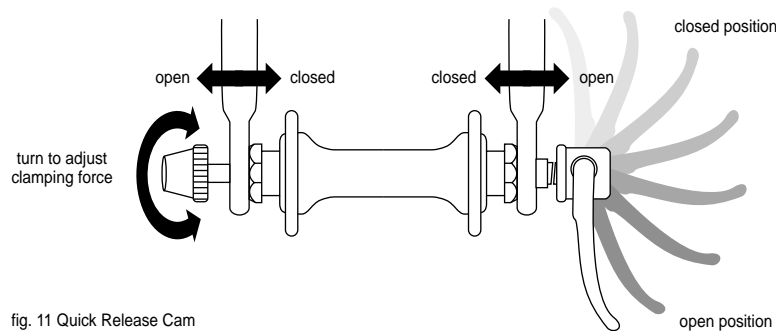
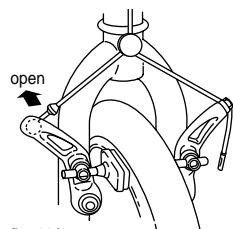

fig. 11 Quick Release Cam
fig. 16A
clamp the bike's wheel in place (see fig. 11). Because of its adjustable nature, it is critical that you understand how it works and how to use it properly.
- (1) Open up the brake shoes (see Section 6.C.1, figs. 16a, b, c and d).
- (2) Rotate the wheel's quick-release lever from the locked or CLOSED position to the OPEN position (figs. 11, 12 & 13).
- (3) If your front fork does not have a secondary retention device go to step 5.
- (4) If your front fork has a clip-on type secondary retention device, disengage it and go to step (5).
- (1) Rotate the quick-release lever so that it curves away from the wheel (fig. 11 & 13).
(3) Holding the quick-release lever in the OPEN position with your right hand, tighten the tension adjusting nut with your left hand until it is finger tight against the fork dropout (fig. 11).
(4) While pushing the wheel firmly to the top of the slots in the fork dropouts, and at the same time centering the wheel rim in the fork, rotate the quick-release lever upwards and push it into the CLOSED position (fig. 11 & 12). The lever should be parallel to the fork blade and curved toward the wheel.
- (1) Shift the rear derailleur to high gear (the smallest, outermost rear sprocket).*
- (2) Open up the brake shoes (see Section 6.C.1, figs. 16A, B, C and D).*
- (3) Pull the derailleur body back with your right hand.*
- (4) Rotate the quick-release lever to the OPEN position (fig. 11 & 13).*
- (5) Lift the rear wheel off the ground a few inches and, with the derailleur still pulled back, push the wheel forward and down until it comes out of the rear dropouts.*
- (3) Rotate the quick-release lever to the OPEN position (see fig. 11). The lever should be on the side of the wheel opposite the derailleur and freewheel sprockets.
(1) Open up the brake shoes (see Section 6.C.1, figs. 16A, B, C and D).
(2) With a 15mm box wrench or a six inch adjustable wrench, loosen the two axle nuts.
3) If your front fork has a clip-on type secondary retention device, disengage it and go to step (4). If your front fork has an integral secondary retention device, loosen the axle nuts about six full turns; then go to step (4).
(4) Raise the front wheel a few inches off the ground and tap the top of the wheel with the palm of your hand to knock the wheel out of the fork ends.
- (1) Open the rear brake shoes (see Section 6.C.1, figs. 16A, B, C and D).
- (2) Shift the rear derailleur to high gear (the smallest rear sprocket) and pull the derailleur body back with your right hand
- (3) With a 15mm box wrench or a six-inch adjustable wrench, loosen the two axle nuts.
(4) Lift the rear wheel off the ground a few inches and, with the derailleur still pulled back, push the wheel forward and down until it comes out of the rear dropouts.
Most brakes have some form of quick release mechanism to allow the brake shoes to clear the tire when a wheel is removed or reinstalled. When the brake quick release is in the open position, **the brakes are inoperative**. Ask your dealer to make sure that you understand the way the brake quick release works on your bike (see Fig. 16A, B, C & D) and check **each time** to make sure both brakes work correctly before you get on the bike.